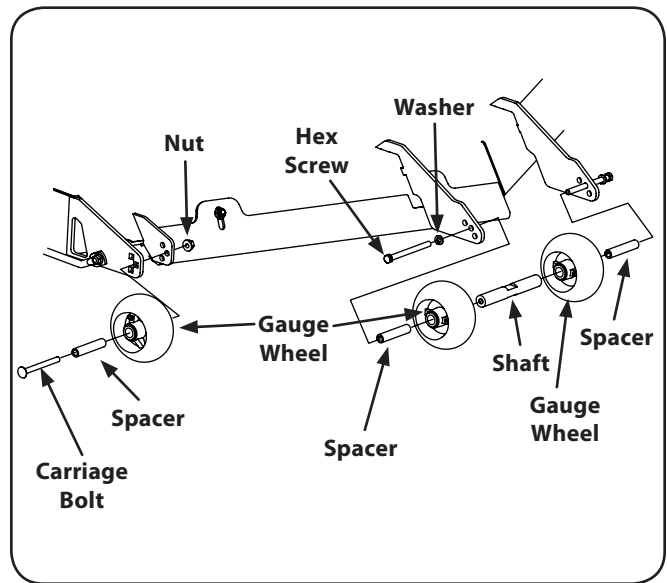

Figure 6-8
2. Remove the lock nut securing one of the outer front gauge wheel shoulder screws to the deck. Remove the gauge wheel and shoulder screw. Refer to Fig. 6-8.